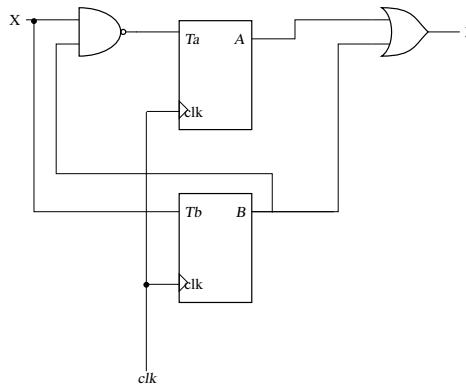

Fig. 5.21
21. Two T-flip flops are interconnected as shown in Fig. 5.21. The present state of the